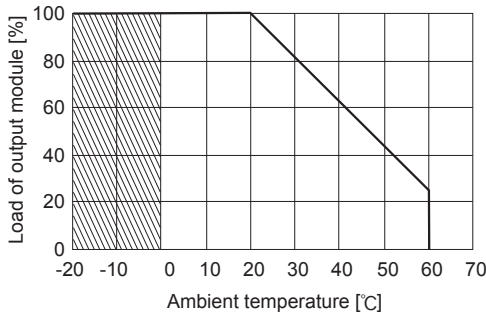

Fig. 6.5 Derating curve for operational ambient temperature (-T)
- The difference from standard products is shown in Fig.6.5.